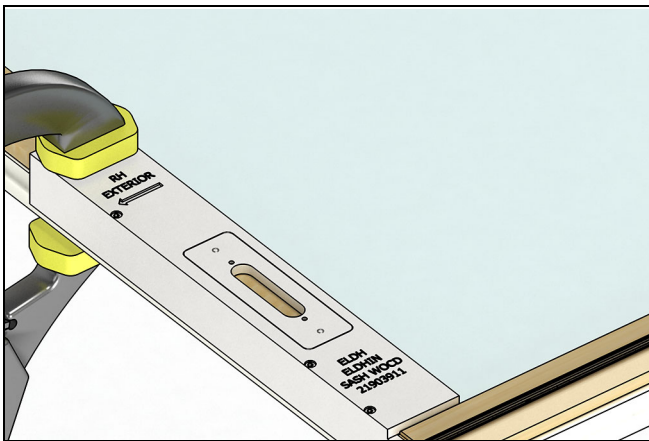

Figure 3
6. Secure the top portion of the WOCD stile jig by clamping it to the top sash. Be sure the jig is fully seated in the outside channel of the sash. See Figure 3.